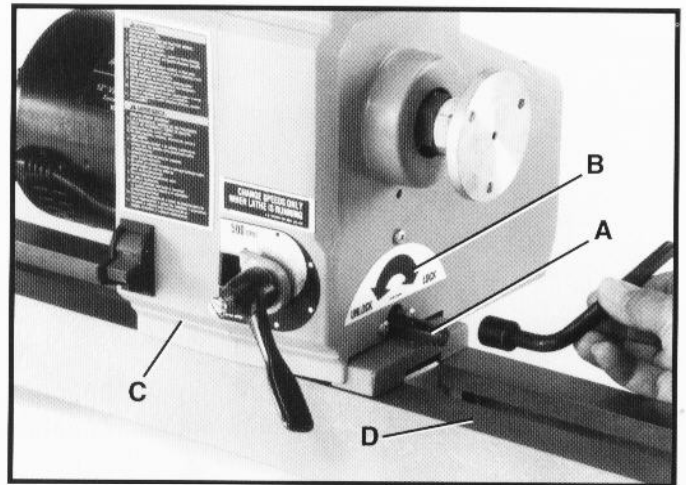
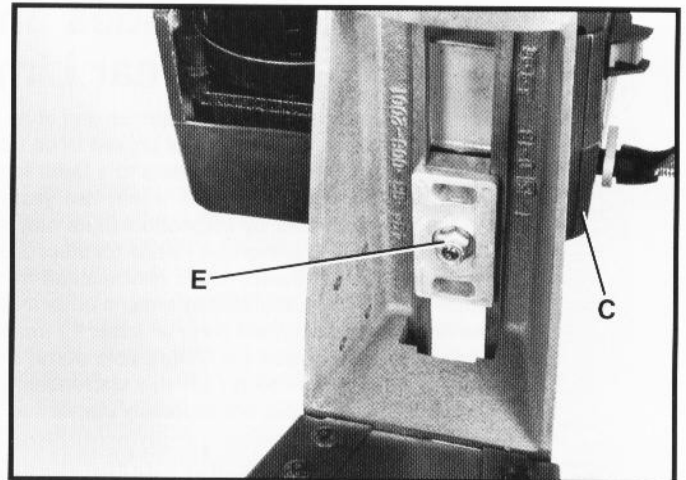

Fig. 101
Fig. 102
To adjust the headstock clamping mechanism, rotate locking bar (A) Fig. 101, as far as it will go toward the locked position (B). Locate lock nut (E) Fig. 102, on the underside of headstock (C). **CAUTION: DO NOT OVERTIGHTEN LOCK NUT (E) DURING ADJUSTMENT, AS IT WILL DAMAGE THE HEADSTOCK CLAMPING DEVICE.**
1. If a torque wrench is available, torque lock nut (E) Fig. 102, to 10 ft./lb. to attain proper clamping action on the headstock. If a torque wrench is not available, proceed with **STEP 2**.
2. If the headstock clamping mechanism is loose and the headstock (C) Fig. 101, does not fasten firmly to lathe bed (D) after turning locking bar (A) to the locked position, rotate lock nut (E) Fig. 102, clockwise 1/8 turn, and check the clamping action on the headstock locking mechanism. Repeat the adjustment as necessary until the headstock firmly clamps to the lathe bed. **NOTE:** When the clamping mechanism is properly adjusted, you will feel a flat spot on the headstock clamping mechanism.
3. If the headstock clamping mechanism tightens before the locking bar (A) Fig. 101, reaches the locked position (B), the clamping action on the headstock is too tight. Rotate lock nut (E) Fig. 102, counterclockwise 1/2 turn to loosen the clamping action, then follow the adjustment as detailed in **STEP 2**.